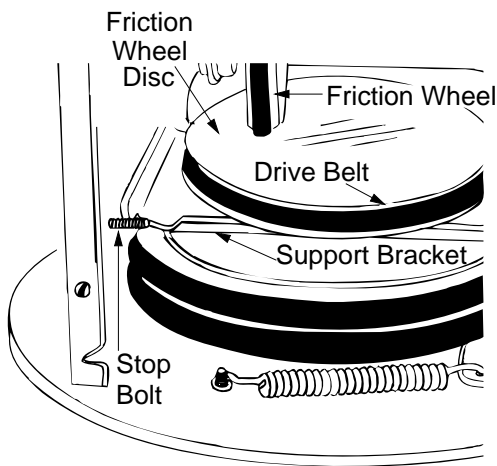

Figure 28
3. Using a 7/16" wrench, loosen the nut on the stop bolt until the support bracket rests on the auger pulley. See Figure 28.
4. Slip belt between friction wheel and friction wheel disc. See Figure 28. Remove and replace belt. Reassemble following the instructions in reverse order.
**NOTE:** The support bracket must rest on the stop bolt after the new belt has been assembled. See Figure 28.